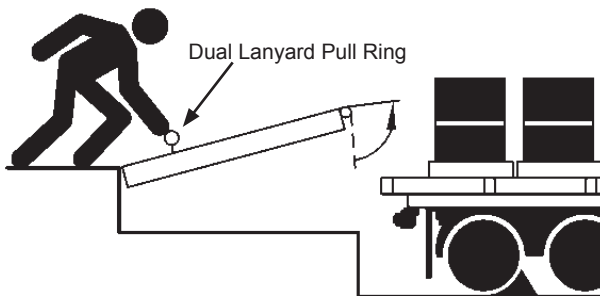

Figure 16
- a. Raise the platform by pressing and holding the RAISE button or lightly pulling and holding dual-lanyard pull ring (see figure 16).